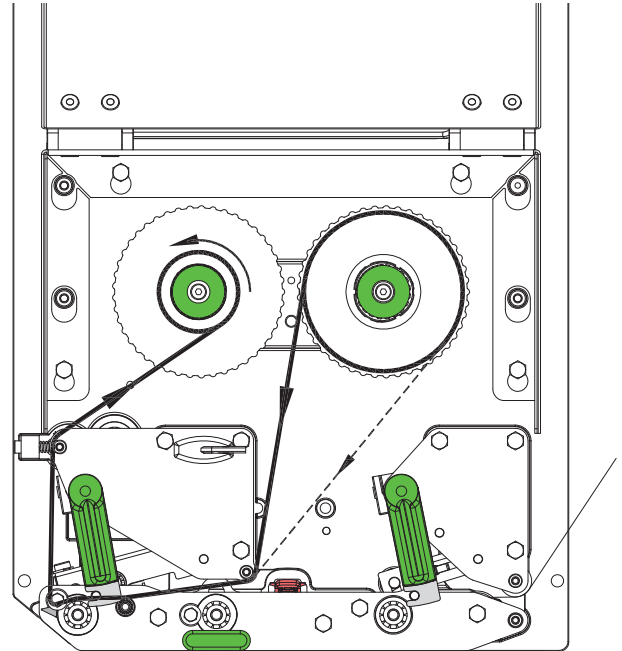

Fig. 10 Transfer ribbon feed path
2. Turn lever (6) counterclockwise to open the printhead.
3. Slide transfer ribbon roll (3) onto the ribbon supply hub (4) until it stops and so that the color coating of the ribbon faces downward when being unwound.
4. Hold transfer ribbon roll (3) firmly and turn knob on ribbon supply hub (5) counterclockwise until the transfer ribbon roll is secured.
5. Slide suitable ribbon core (1) onto the transfer ribbon take-up hub (2) and secure it in the same way.
6. Guide transfer ribbon through the print unit as shown in the figure 10.
7. Secure starting end of transfer ribbon to the transfer ribbon core (1) with adhesive tape. Ensure counterclockwise rotation direction of the transfer ribbon take-up hub here.
8. Turn transfer ribbon take-up hub (2) counterclockwise to smooth out the feed path of the transfer ribbon.
9. Turn lever (6) clockwise to close the printhead.